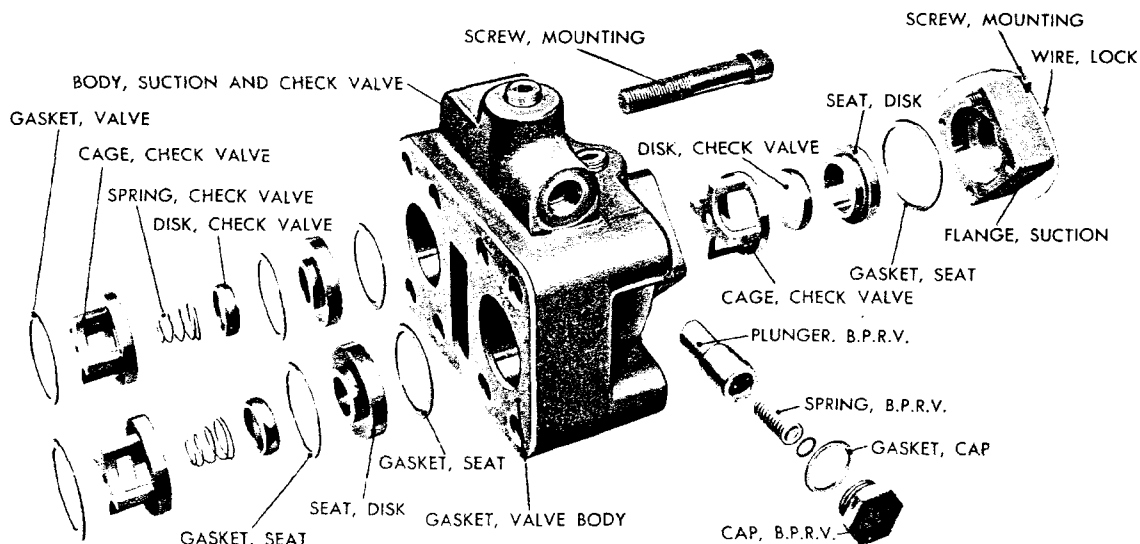

Figure 8. Pump Suction and Check Valve, Assembly, Exploded View
3. **ASSEMBLY.** Reassemble parts in reverse order of that used for disassembly. Be sure gasket (54) is in place on shoulder of cap (55) before tightening cap.
H. BACK PRESSURE RELIEF VALVE. (See Fig. 8 and Section "H-H" in Fig. 13.)
2. **PRESSURE ADJUSTMENT.** Insert additional shims (216) to increase pressure or remove to decrease pressure. Each 1/16" thick shim will change pressure about 9 pounds per square inch. See Specification Bulletin for pressure setting.
3. **PLUNGER REMOVAL.** Remove cap (218) and gasket (217) to remove spring (215), shims (216) and plunger (214) through hand hole in fluid reservoir.
I. SUCTION AND CHECK VALVES. (See Figs. 8, 12, and 13.)
2. **CHECK VALVE REMOVAL.** To inspect suction check valve (209), remove lock wire (212A), screws (212) and flange (211). Seat (210), disc (209) and cage (207) are free to be removed.
3. **CHECK VALVE ASSEMBLY.** Reassemble parts in reverse order of that used for disassembly. Be sure mounting screws (212) are tightened uniformly to prevent air from entering the system.
4. **BODY AND CHECK VALVE REMOVAL.** To inspect check valve (201), remove tube (130). Remove the eight mounting screws (200A) (support suction valve body (200) while removing screws). Remove valve body (200) and gasket (202). The disc (201), cage (205), seat (204) and gaskets (203-A) are free to be removed.
5. **ASSEMBLY.** Reassemble parts in reverse order of that used for disassembly. Be sure mounting screws (200A) are tightened uniformly and tube (130) tightened securely to prevent air from entering the system.